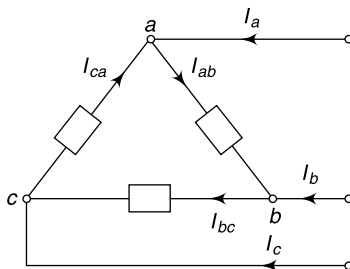

Fig. 7.20 Circuit of Ex. 7.30
7.30 A three-phase 440 V supply feeds a balanced delta connected load. Given: $I_{ab} = 30 \angle -30^\circ$ w.r.t. V_{ab} . Find (i) the line current I_a and its phase angle w.r.t. V_{ab} , (ii) total power received by the load and (iii) the resistance per phase. The corresponding figure is given in Fig. 7.20.